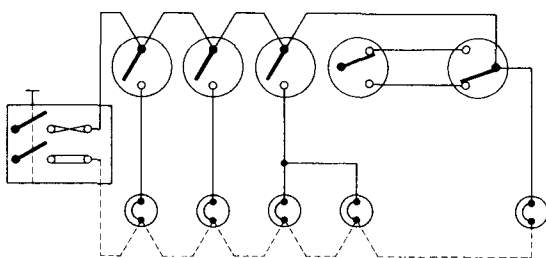

Fig. 3.173
4. A domestic lighting circuit. (Fig. 3.173)